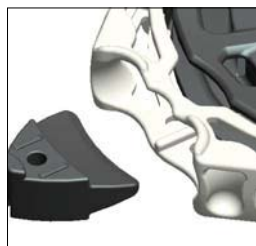

Fig. 1.1a
1. Pull on the red lanyard and remove the wedge-shaped divider. Rotate the system so that notches in the stainless steel line guard and the linedriver are aligned (fig 1.1a).